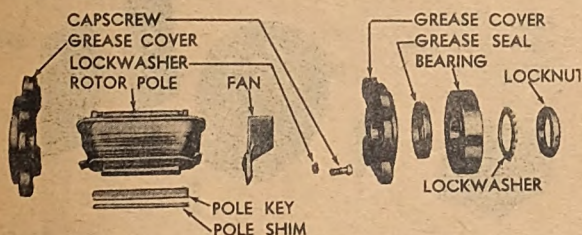

Fig. 306. Rotor Pole, Fan, Pole Key and Shim
(5) Slide the pole out of the dovetail slot in the spider. (See Figure 305.) Take away the shims. (See Figure 306.)